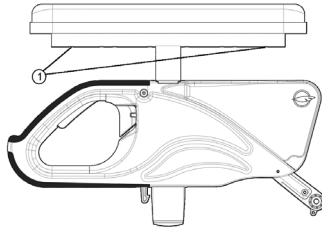

Fig. 20
- Remove screws (1) (Fig. 20) located under pad (through the tube).
- Reinstall screws (1) and tighten firmly.